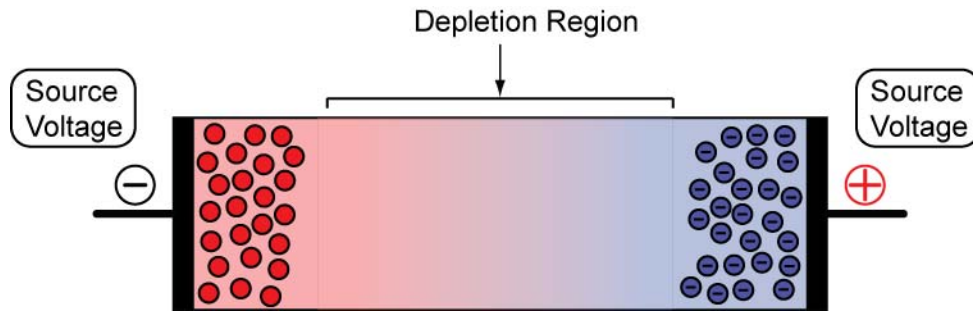

Figure 8: Current Is Stopped When the p-n Junction Diode is Reverse Biased
- When a diode is reverse biased, the electrons in the cathode are attracted to the positive diode terminal and the holes in the anode are pulled toward the negative diode terminal. The result is an expanded depletion region which lacks current carriers and prevents current flow (Figure 8). A large depletion region inhibits current flow.
This lesson focuses on one of the main applications for transistors: acting as a solid state SPST ON/OFF switch in digital circuits. In Figure 8, the regions of operation for a transistor switch are known as the saturation and cut-off regions. The active region of BJT operation shown in Figure 8 is used for linear amplification in analog circuits; this topic will not be discussed in this lesson.